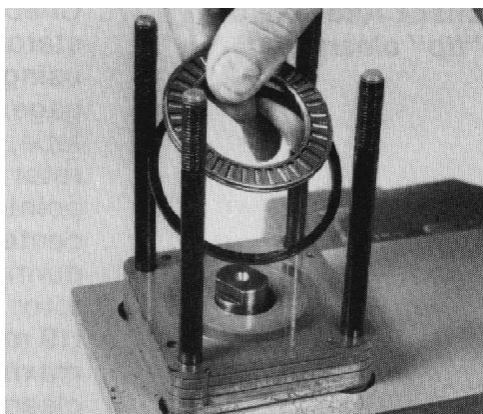

Figure 55
41. Remove the thrust bearing and bearing spacer from the upper cover plate (Fig. 55).